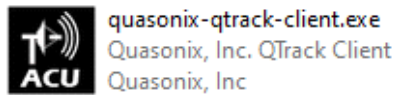

Figure 10: QTrack ACU Desktop Icon
2. Click on the QTrack ACU desktop icon, as shown in Figure 10.